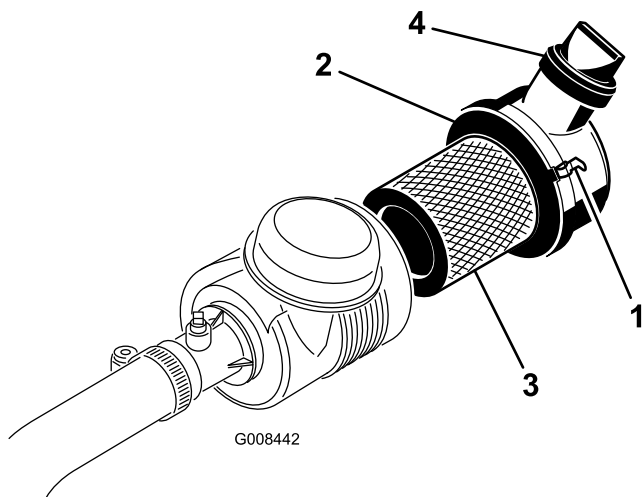

Figure 37
1. Release the latches securing the air cleaner cover to the air cleaner body (Figure 37).
7. Reinstall the cover and secure the latches (Figure 37).